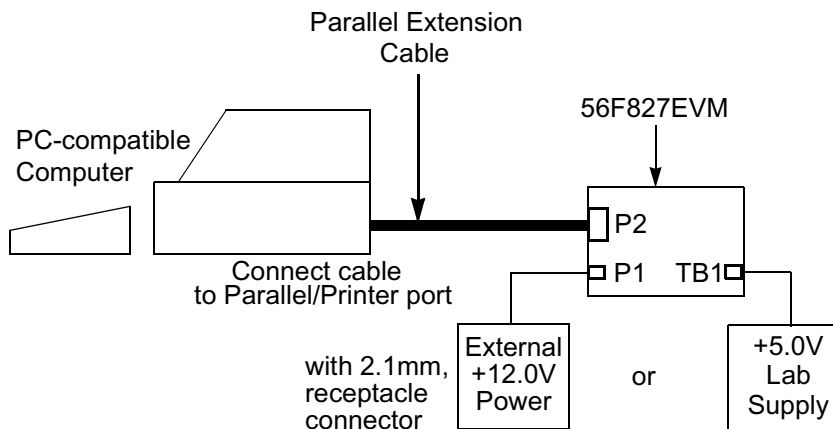

Figure 1-3. Connecting the 56F827EVM Cables
An interconnection diagram is shown in **Figure 1-3** for connecting the PC and the external +12.0V DC power supply or external +5.0V DC lab power supply to the 56F827EVM board.
2. Connect the other end of the parallel extension cable to P2, shown in **Figure 1-3**, on the 56F827EVM board. This provides the connection which allows the host computer to control the board.
4. Connect the 2.1mm output power plug from the external switching power supply into P1, shown in **Figure 1-3**, on the 56F827EVM board. Optionally, attach an external +5.0V DC lab power supply via the 2-pin terminal block, TB1.